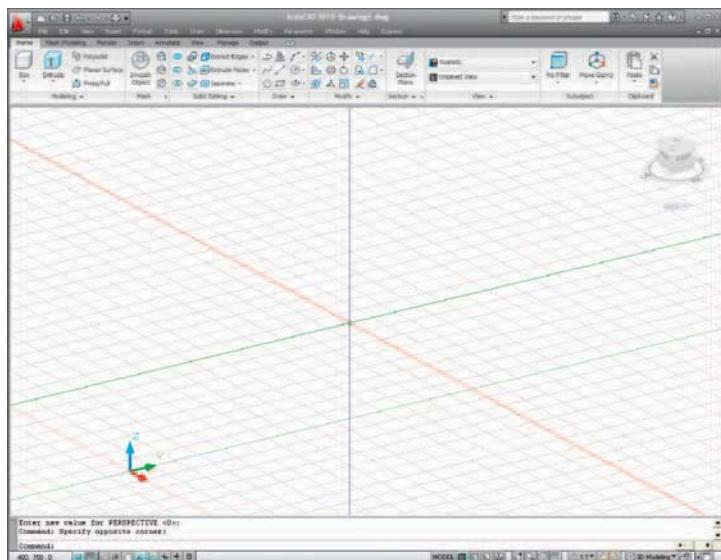

Fig. 15.2 The **3D Modeling** workspace
2. The AutoCAD window (Fig. 15.2) appears.
Figure 15.2 shows the screen is in **Parallel** projection. Some operators may prefer the screen to be set to **Perspective** projection.